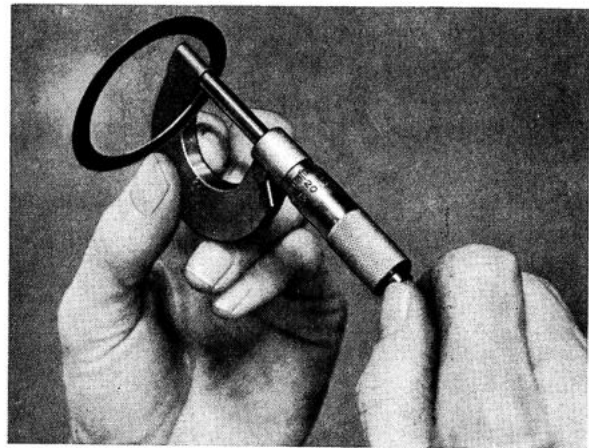
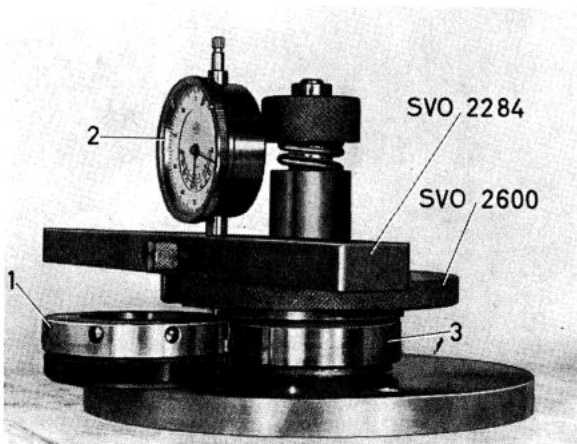

Fig. 4-156. Measuring the shim
Fig. 4-155. Determining the shim thickness
- Place the rear pinion bearing complete with the outer ring in measuring fixture SVO 2600. Put on the plate, spring and nut. Turn the nut with the flat side facing upwards. The plate, and thereby the bearing, is turned forwards and backwards several times so that the rollers take up the correct position. Place the adjusting ring in the measuring fixture as shown in Fig. 4-155. Use retainer SVO 2284 and dial indicator, place the measuring point of the indicator opposite the adjusting ring and zero-set the indicator. Then set the pointer of the indicator to the outer ring of the bearing. The dial indicator now shows directly the thickness the shims should have. Measure the shims for the correct thickness with a micrometer, see Fig. 4-156. N.B. It is almost impossible to obtain a shim with exactly the correct thickness. However, they must not be 0.03 mm (0.0012") thicker than the measured value, but up to 0.08 mm (0.0032") thinner.
Rotate the plate forwards and backwards several times. Put on the dial indicator and retainer SVO 2284. Zero-set the indicator to the adjusting ring and then place the measuring point facing the bearing, see Fig. 4-155. Read off the indicator. With a micrometer measure the shims, the total thickness of which corresponds to the read-off value + 0.07 mm (0.003"). Place the shims together with the measured bearing to the one side. Repeat the above procedure with the other bearing.